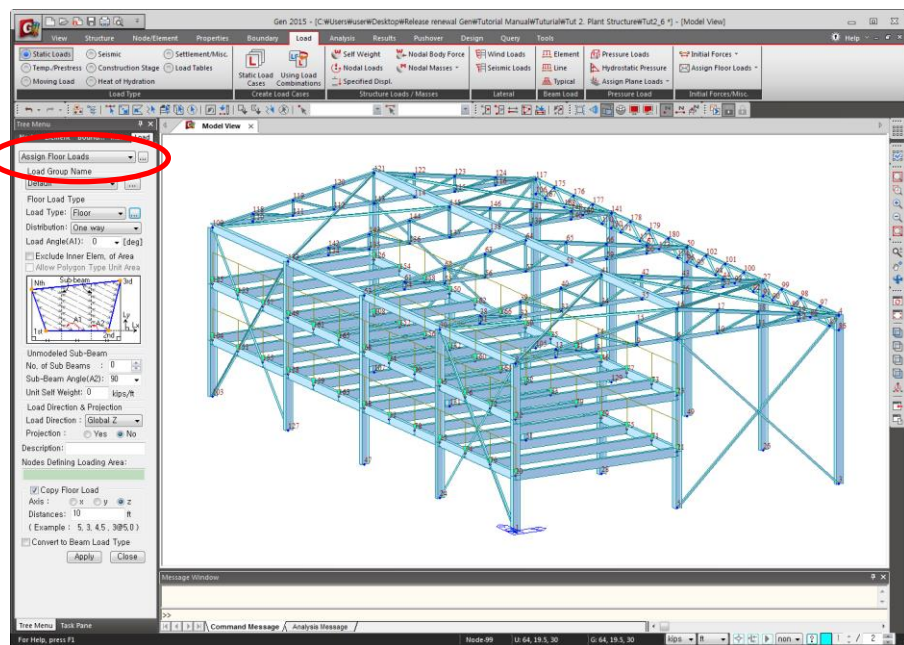

Figure 2.19 Data Entry for Floor Loads
1. Select *Assign Floor Loads* in the functions selection field (Fig.2.19–①).